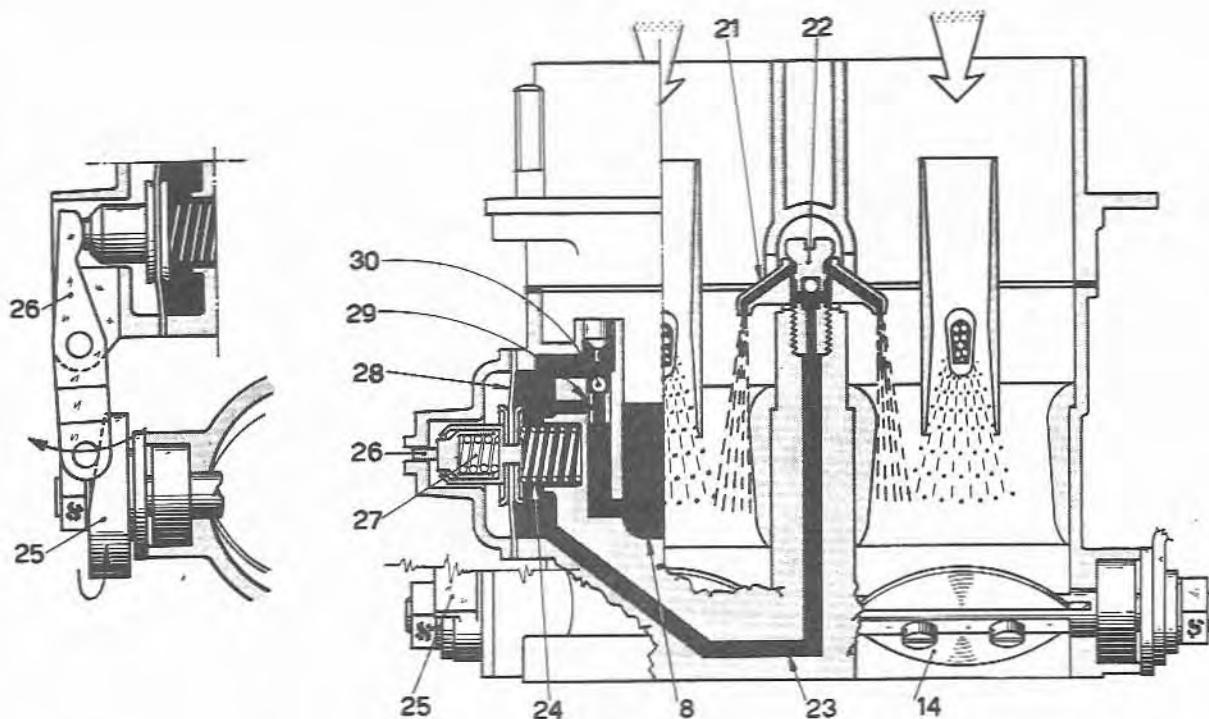

Fig. 13.4 Acceleration phase (Sec 3)
Refer to Fig. 13.4 and note that when the throttle valves are closed, the spring (24) pushes the diaphragm (28) outwards and fuel is drawn from the float chamber (8), through the ball valve (30) into the pump chamber. When the throttle valves are opened, the cam (25) operates the lever (26) and the diaphragm (28) is depressed against the tension of the spring (24). Fuel is forced along the channel (23) to the delivery valve (22) and is injected through the pump jets (21) into the carburetor barrels in the vicinity of the auxiliary venturis. The spring (27) dampens any sudden opening of the throttle valves and prolongs the full delivery. The calibrated discharge hole (29) allows excess fuel and any accumulated air and vapour to escape into the float chamber.